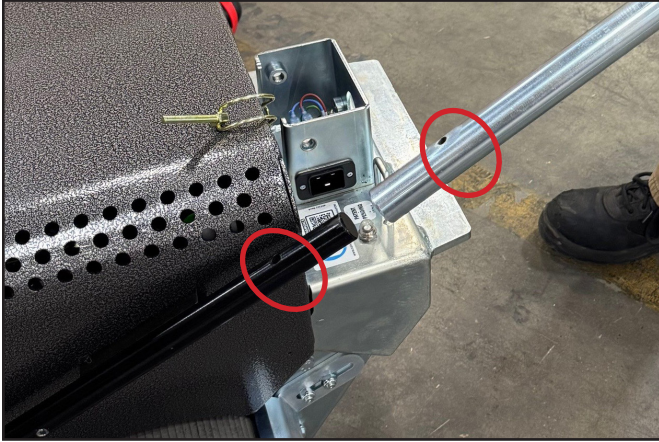

Fig 3 - Transport pole lock holes.
8. Fit lifting poles over rear ends of the slide weight rods and lock into place with locking pins. (Fig. 3 - 5)